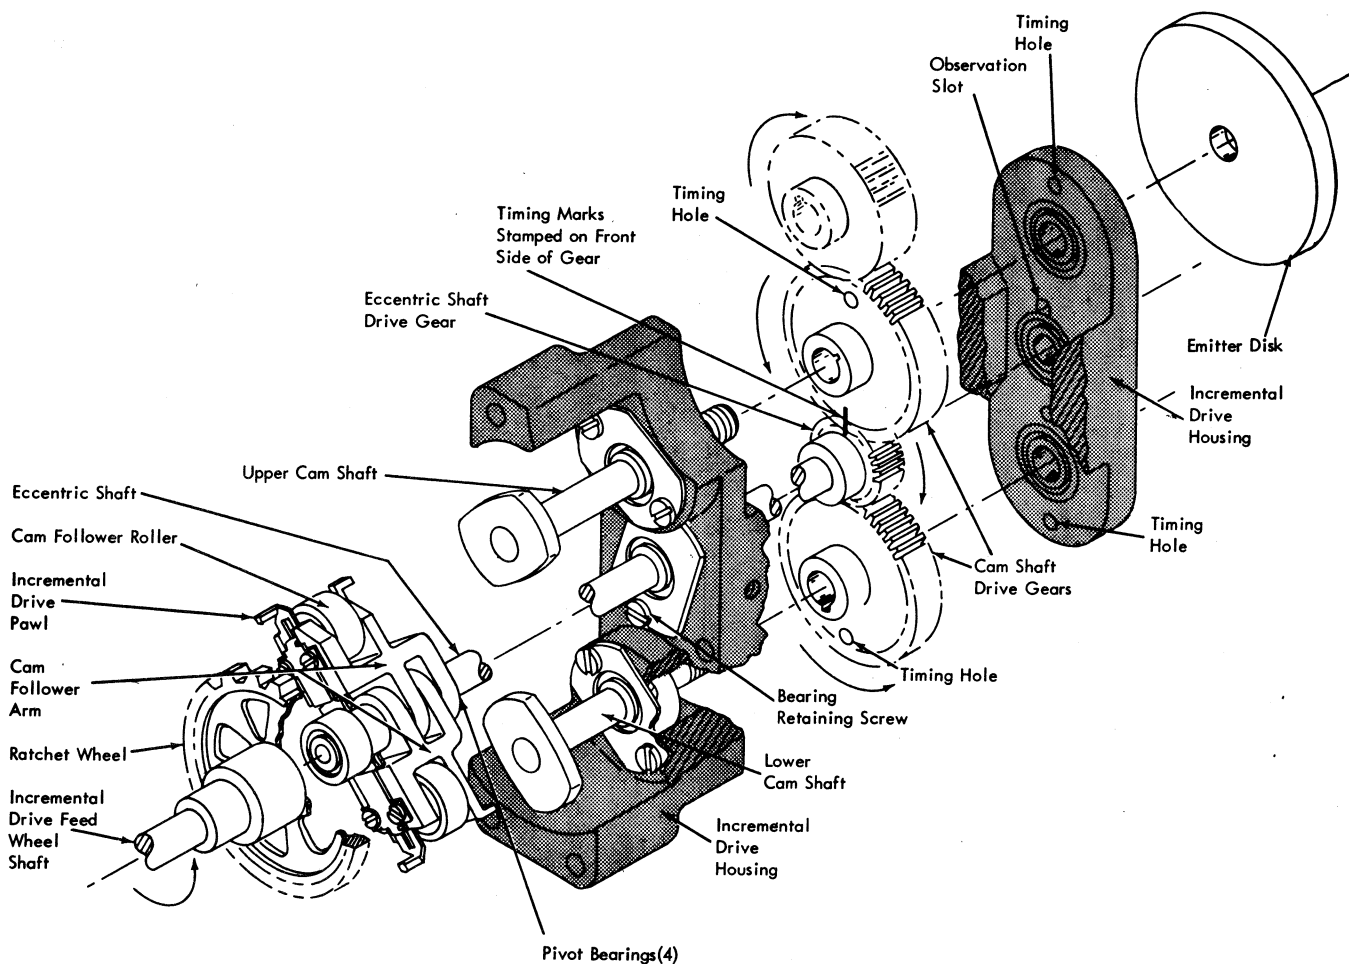

Figure 4-50. Incremental Drive
When the incremental drive cam follower arm pivot bearings require replacement, the entire follower arm assembly should be replaced. See Figure 4-50.
3. Rotate incremental drive until timing marks on upper camshaft gear and eccentric shaft drive gear line up. Timing holes in upper and lower camshaft drive gears must also be in alignment with timing holes B and C in drive housing. Insert timing pins in holes B and C (Figure 4-50).
The removal procedure for the upper camshaft, and the lower camshaft is the same, except for the emitter disk. Refer to Figure 4-50 for location of components.